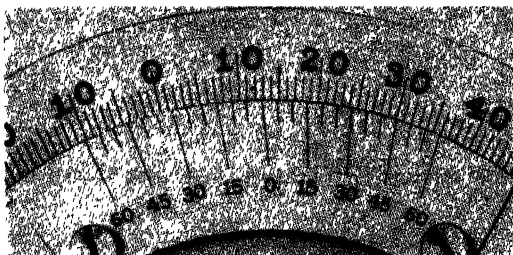

**Fig. 3-49.** Using a bevel protractor to measure a bevel on piece (*The Brown & Sharpe Manufacturing Company*)
**How to Read a Universal Bevel Protractor with a Vernier.** A *bevel protractor* is a measuring tool used to measure angles. With the help of a vernier, it will measure angles accurately. Figure 3-49 represents a case of angle measurement using the protractor.